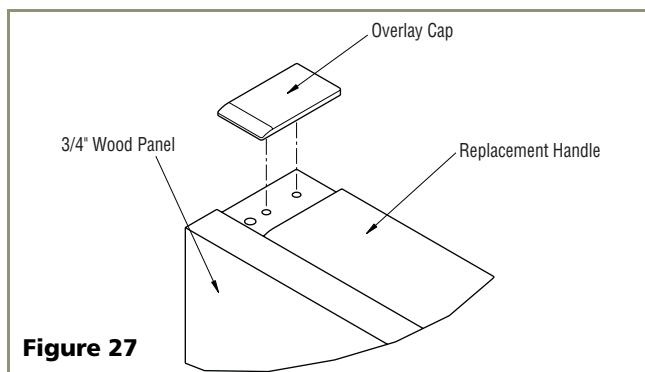

Figure 27
3. Attach Overlay cap to door, opposite side of where hinges will be (see **Figure 27**).